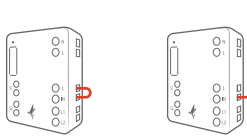

Fig.3
- ① A.C. device: Connect L and IN with the attached wire. (Fig.3)